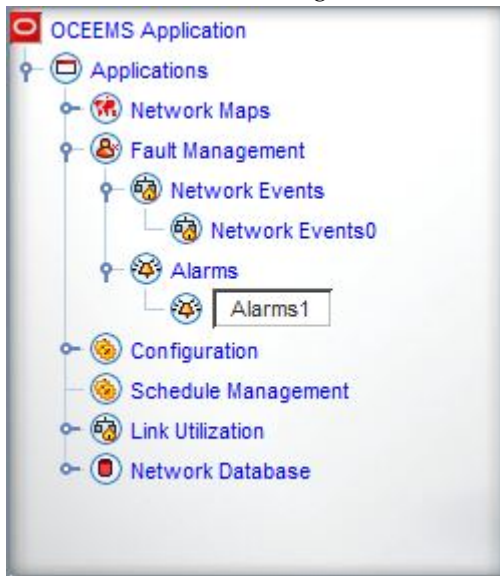

Figure 201: Entering a New Name for a Custom View
3. Type the new name for custom view as shown in Figure 201: Entering a New Name for a Custom View, and press **Enter**.